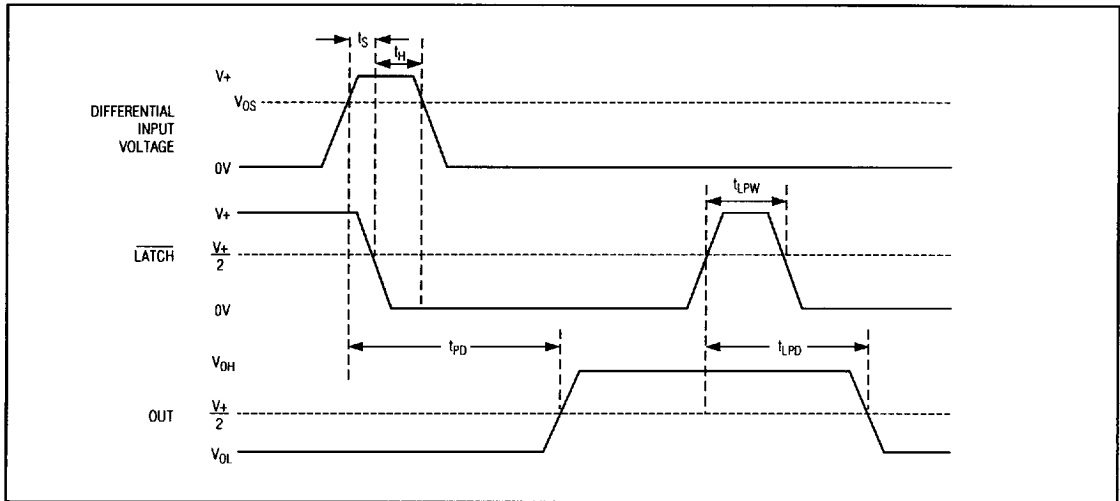

Figure 2. MAX941 Timing Diagram with Latch Operator
- Note 8:** Parameter is guaranteed by design and specified with V_{OD} = 5mV and C_{LOAD} = 15pF in parallel with 400μA of sink or source current. V_{OS} is added to the overdrive voltage for low values of overdrive. See Figure 2.
- Note 12:** Applies to the MAX941 only. Comparator is active with $\overline{\text{LATCH}}$ pin driven high and is latched with $\overline{\text{LATCH}}$ pin driven low. See Figure 2.
The MAX941 includes an internal latch that allows storage of comparison results. The LATCH pin has a high input impedance. If LATCH is high, the latch is transparent (i.e., the comparator operates as though the latch is not present). The comparator's output state is stored when LATCH is pulled low. All timing constraints must be met when using the latch function (Figure 2).